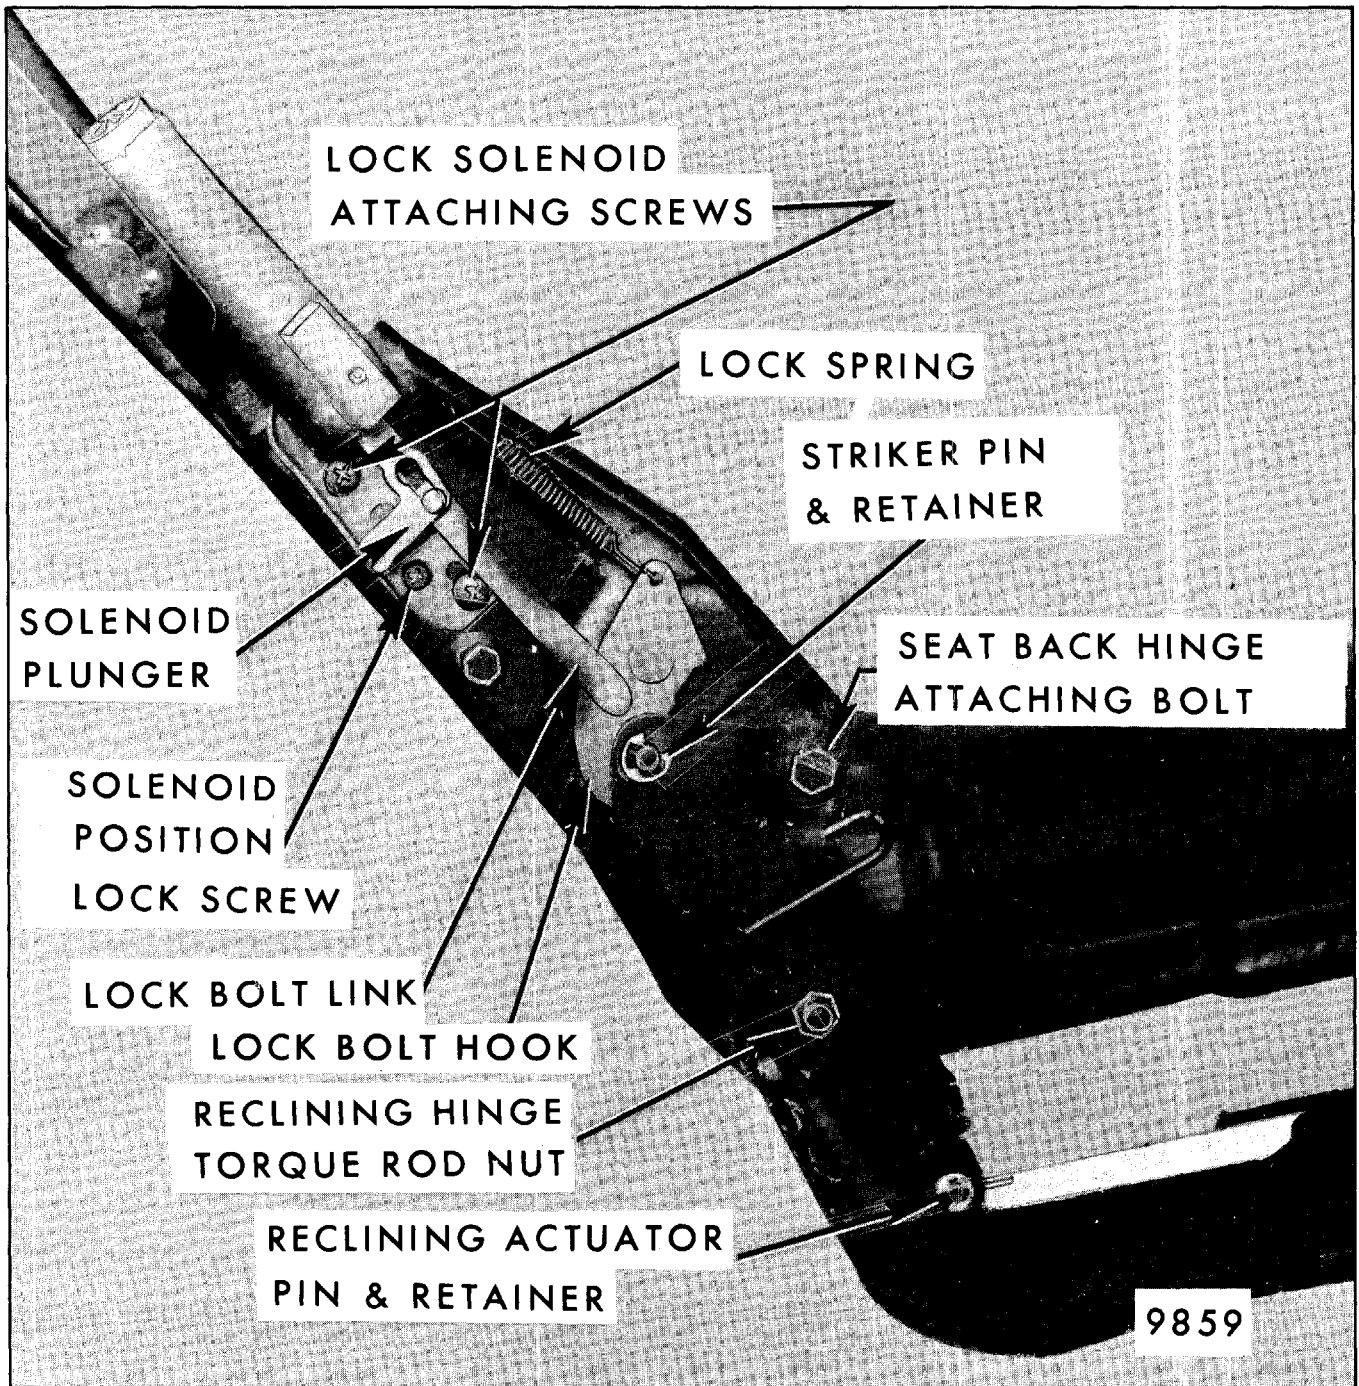

Fig. 9-67 - 50-50 Front Seat With Reclining Back and Electric Seat Back Lock - Cadillac Eldorado
- b. On styles with folding seat backs, remove retainer securing seat back outer arm to hinge pin and disengage outer arm from hinge pin. Tilt seat back forward and upward to disengage seat back inner hinge pin from inner support (see Fig. 9-67, view D).
- d. On four-door styles with 60-40 seats, remove bolt securing seat back outboard hinge arm to lock-out bar (see view A, Fig. 9-67) then tilt seat back forward and upward to disengage seat back inner hinge arm from inner hinge pin (see Fig. 9-67, view D).
Removal and Installation (Refer to Fig. 9-67)